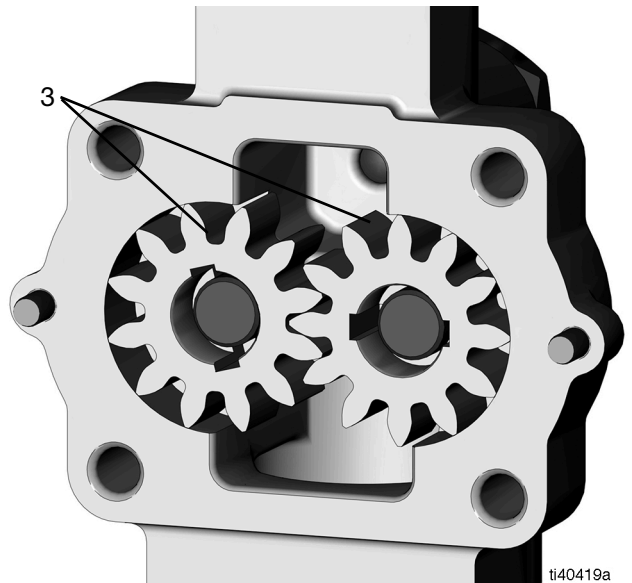

FIG. 10
- Remove both of the pump gears (3) (FIG. 10).
- Inspect the pump cavity and pump gears (3) for damage or excessive wear. If there is damage or wear, replace the pump housing assembly. If neither is present, clean the pump cavity and gears (3) (FIG. 10).
1. Place the pump gears (3) into the pump cavity, making sure that they spin freely (see FIG. 10).